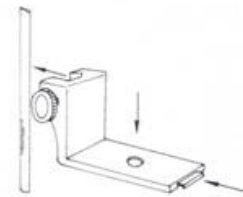

Fig. 4
- 1) Infusion pump should be hold on the frame by clamp and other accessories. (See figure 4)